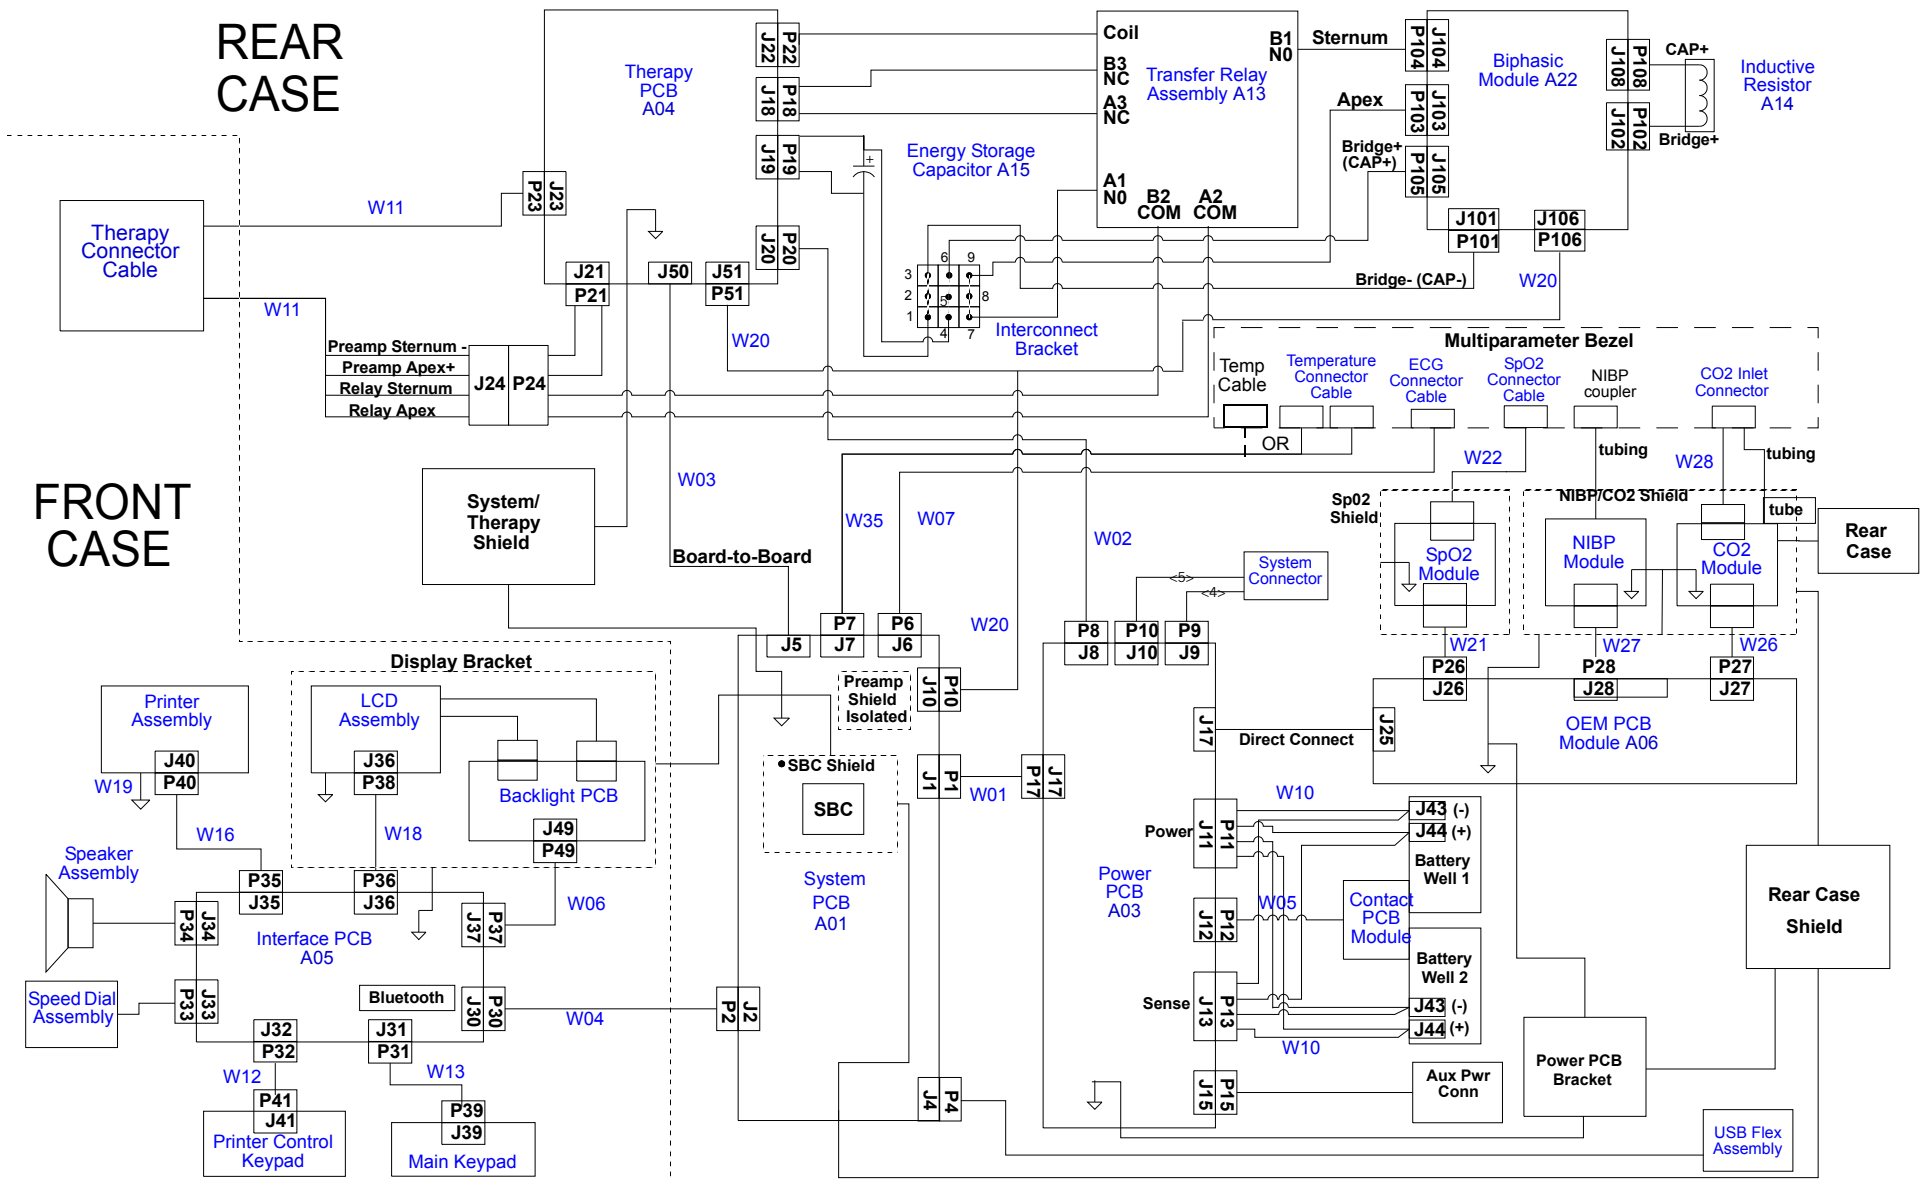

Figure 11.2—Interconnect diagram with detailed assembly, cable interconnect information, and links to each part diagram.
- Interconnect Diagram (Figure 11.2 on p. 490)—shows detailed assembly and cable interconnect information and provides links to each part diagram.